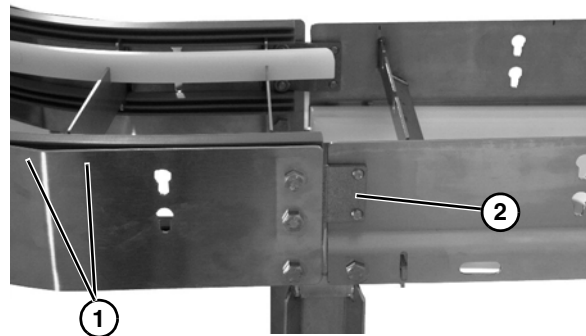

Figure 16
5. When securing straight section to curved section on outside curve (Figure 16, item 1) make sure offset plate (Figure 16, item 2) is to the outside of straight section.